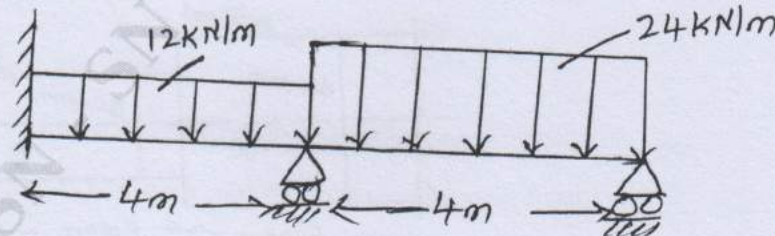

Fig Q9
- 9 For the beam shown in Fig Q9, determine the end reaction and deflection at mid span. Take  $E = 200 \text{ GPa}$ ,  $I = 4 \times 10^6 \text{ mm}^4$